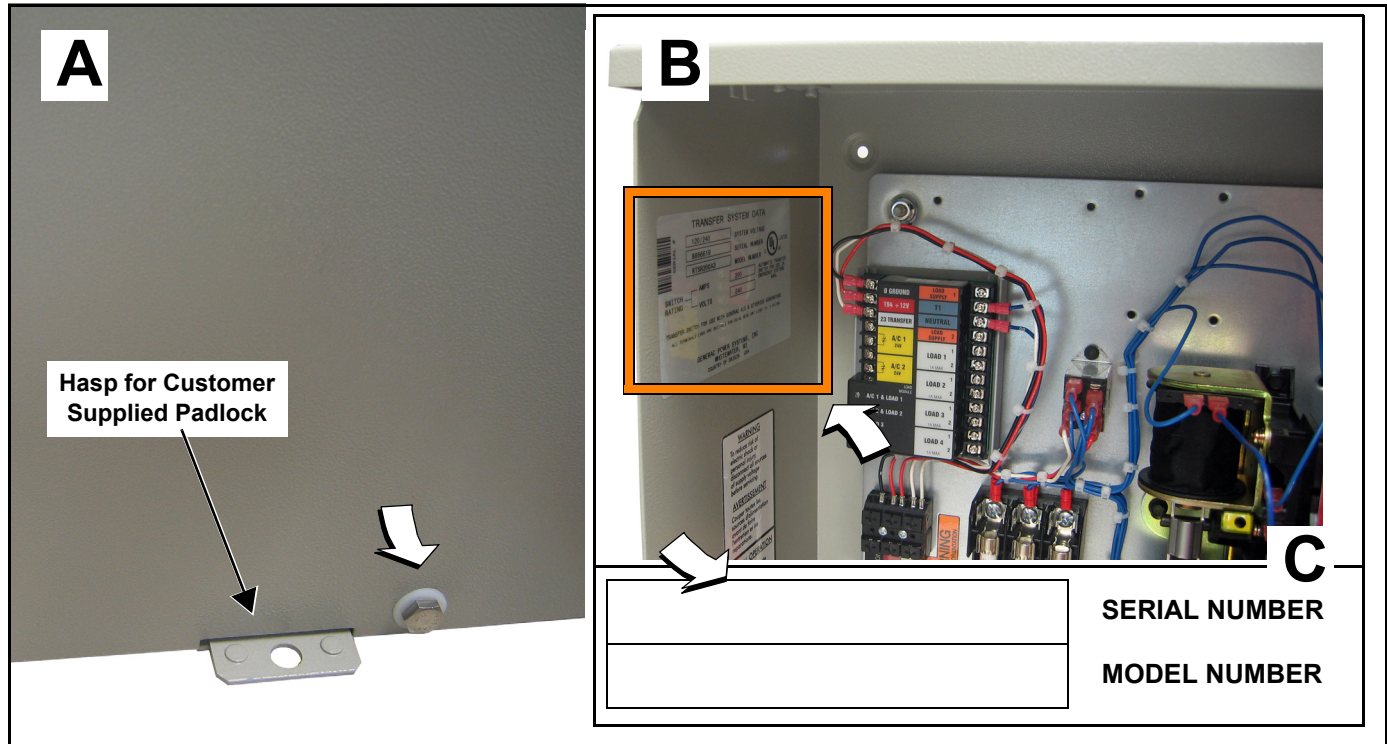

Figure 4-1. Remove Transfer Switch Cover and Record Serial and Model Numbers
1. Remove hex screw (with nylon washer) and remove cover from enclosure. See A of Figure 4-1.
The Transfer System Data decal is attached to the inside wall (top left side) of the transfer switch enclosure. See B of Figure 4-1.
Information on the decal is required when requesting information or ordering service parts. For quick and easy reference, record the Serial and Model numbers printed on the decal in the space provided here. See C of Figure 4-1.